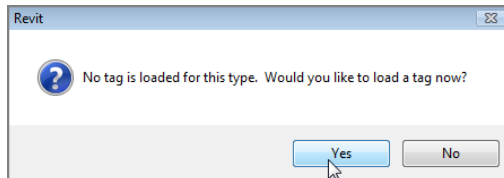

FIGURE 11.62: When you try to tag an item without a specific tag type loaded, this dialog box prompts you to load the tag.
6. Many times, you won't have a tag loaded for this specific type of item. If that situation occurs, you'll get the message shown in Figure 11.62. If you want to load a tag, click Yes to do so. If you don't, proceed to step 14.